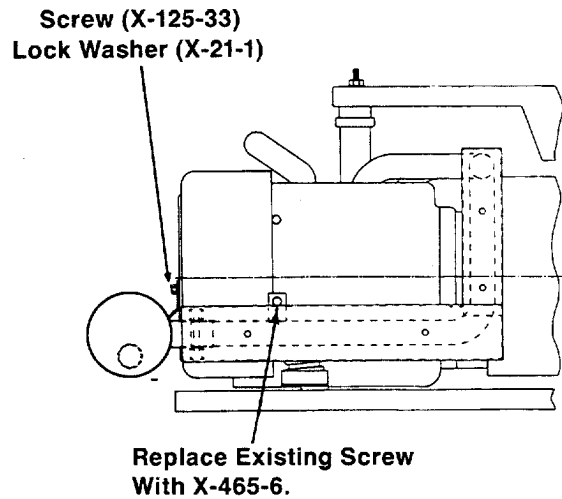

Figure 3. Heat Baffle Position
- Use four drill screws (X-794-2) to attach heat baffle (278234) to portion of exhaust manifold routed along back of generator. Long side of heat baffle should be installed parallel to mounting tray (Figure 3).